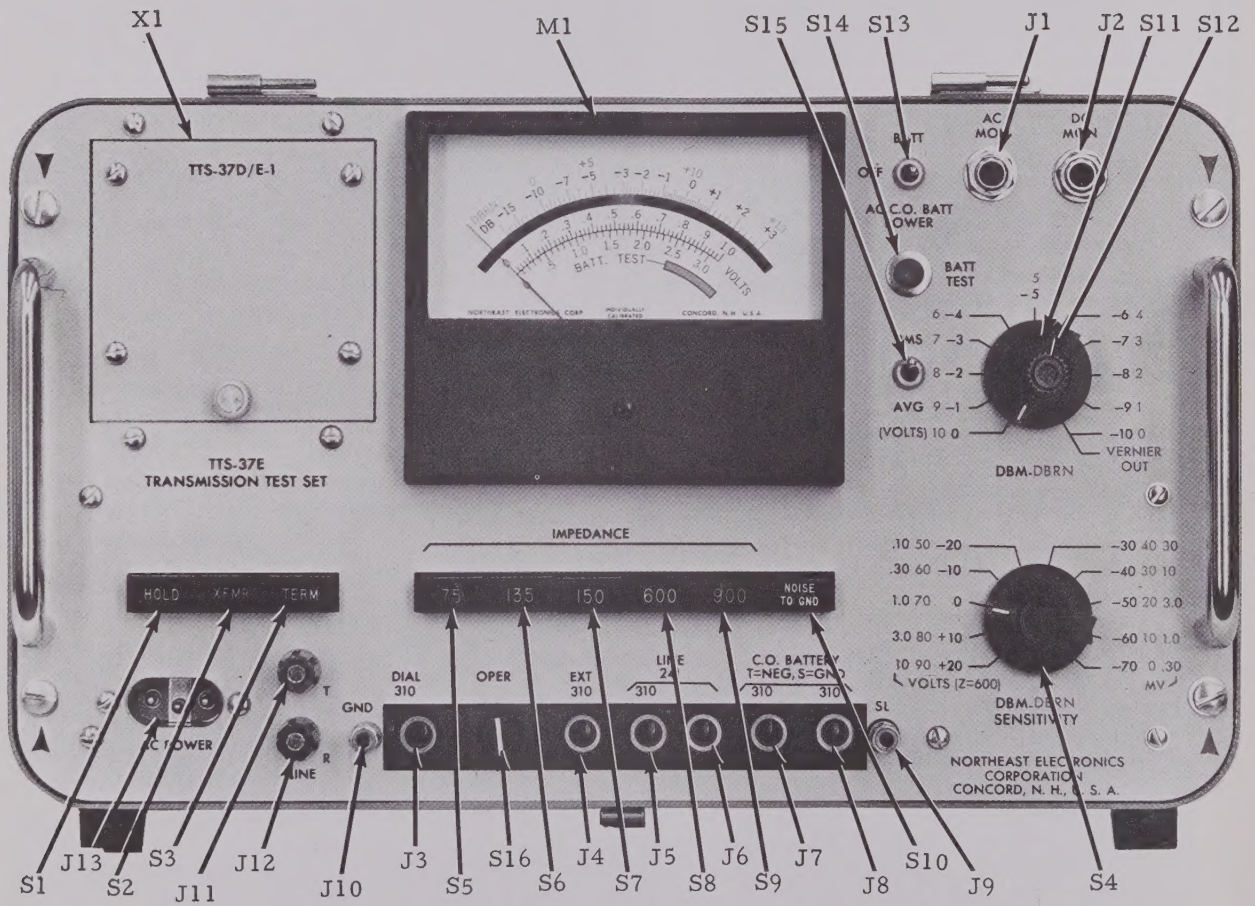

Fig. 2-1 Front Panel Controls
2.1 FRONT PANEL CONTROLS (Fig. 2-1 and Table 2-1 locate and describe the front panel controls of the TTS 37E.)